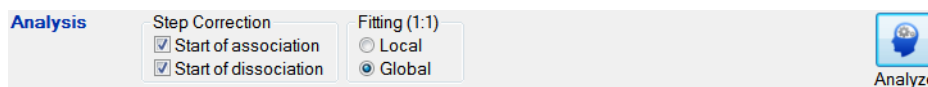
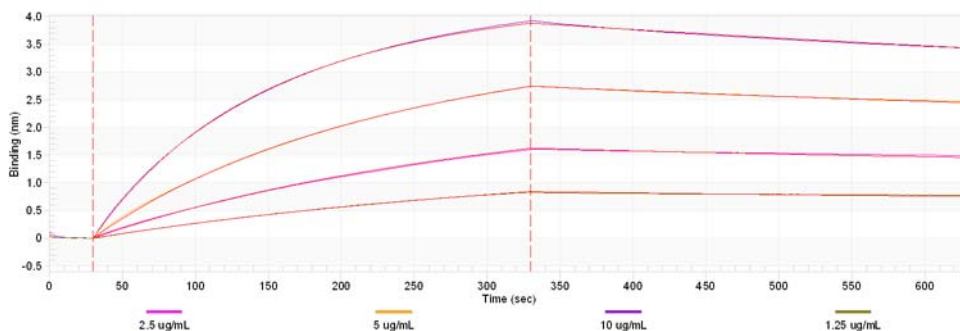

Figure 4-53: Analysis Settings
Figure 4-54: Analysis Results—Red Line Overlaying Data Are Curve Fits
14. Select the settings in Figure 4-53 and click **Analyze** to display the results in Figure 4-54.